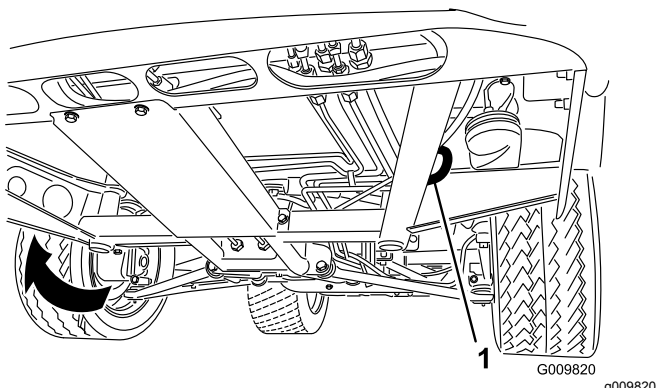
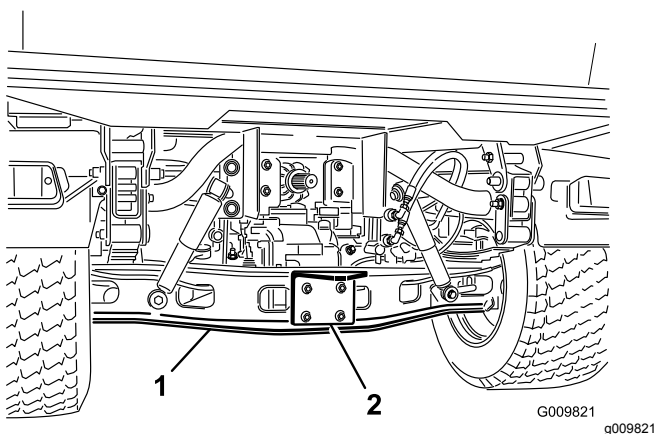

Figure 26
Figure 27
Refer to Figure 26 and Figure 27 for the tie-down locations on the machine.
1. Affix a tow line to the tongue at the front of the frame of the machine (Figure 26).